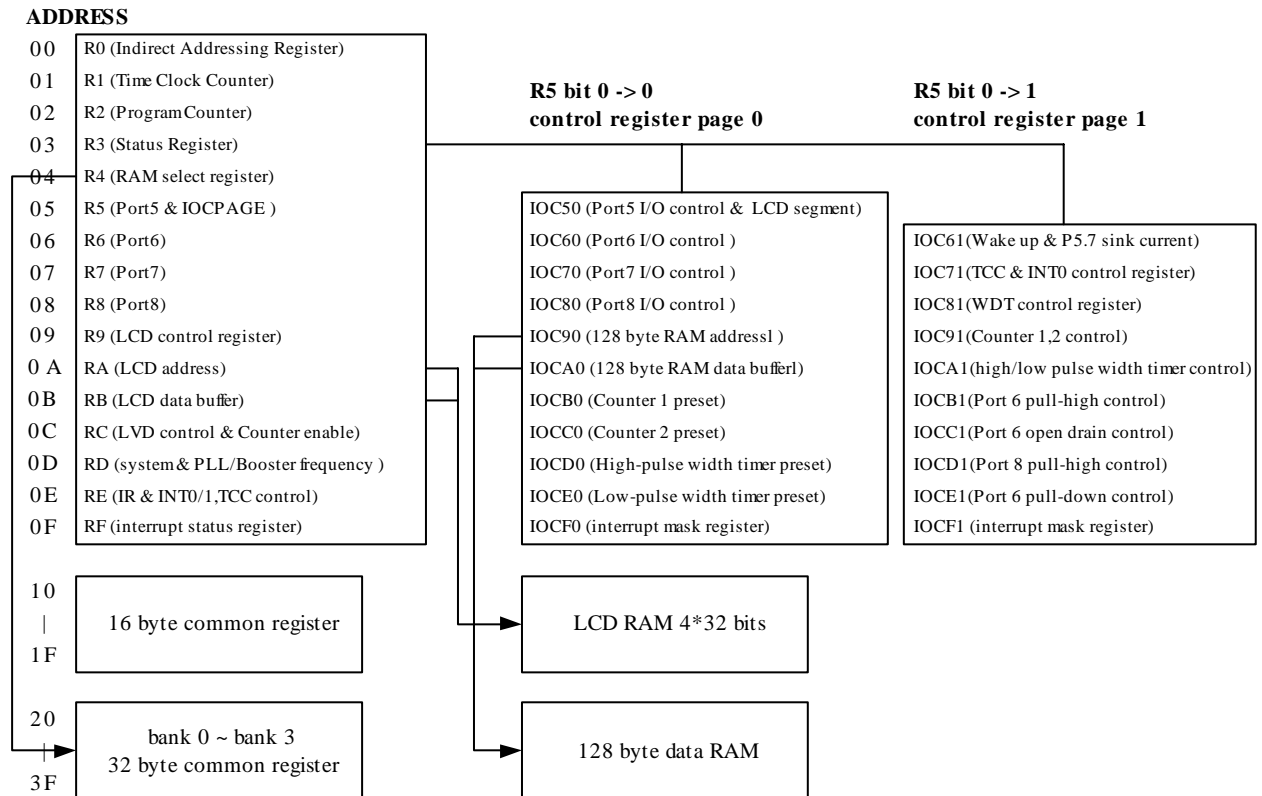

Fig. 4 Data Memory Configuration
**Bits 7 ~ 6** determine which bank is activated among the 4 banks. See the configuration of the data memory in Fig.4. Use BANK instruction to change bank.